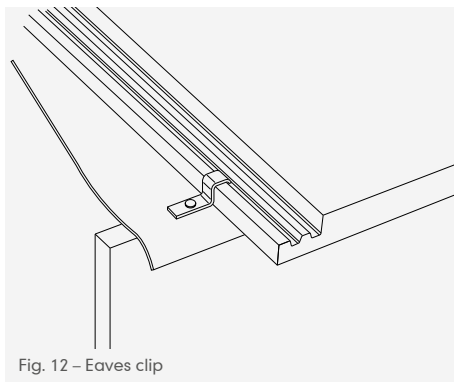

Fig. 12 – Eaves clip
- 4 Fix eaves course tiles with nail or purpose-made eaves clip nailed to top of fascia board (Fig. 12).